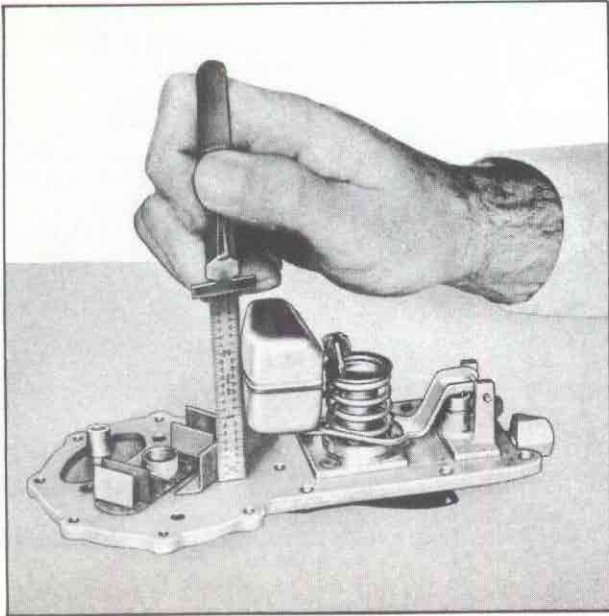

Figure 49
20. With cover inverted, bend the float arm if necessary so that the highest point of the float is $\frac{7}{16}$ " from the surface of the bowl cover (fig. 49). Be sure when the setting is completed that the float arm does not strike the cover and prevent needle valve closure.